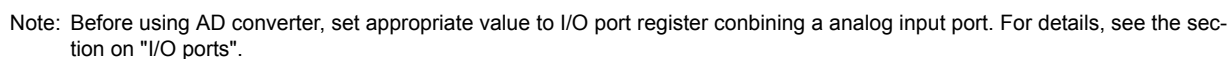

Figure 13-1 10-bit AD Converter
The circuit configuration of the 10-bit AD converter is shown in Figure 13-1.
- Set the AD conversion time using AD conversion time (ACK). For details on how to set the conversion time, refer to Figure 13-1 and AD converter control register 2.
- After setting up (1) and (2) above, set AD conversion start (ADRS) of AD converter control register 1 (ADCCR1) to "1". If software start mode has been selected, AD conversion starts immediately.